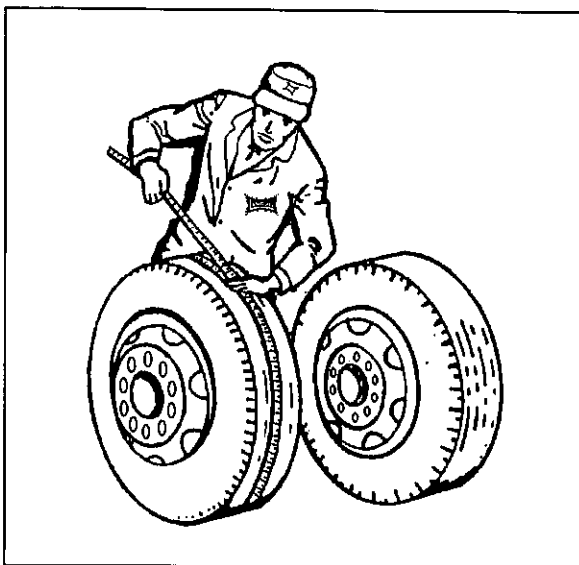

Figure 4-11 Measuring Method
**a. Tape Measuring Method.:** Measure around each tire on the tread surface. A maximum difference of 3/4" is allowed between the two mating tires of a dual (**See Figure 4-11**).